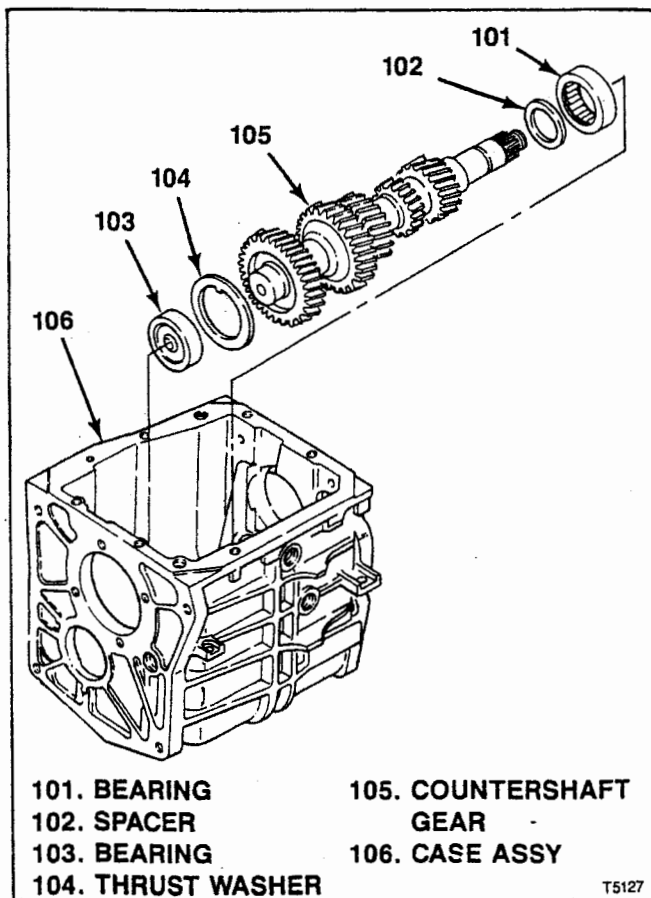
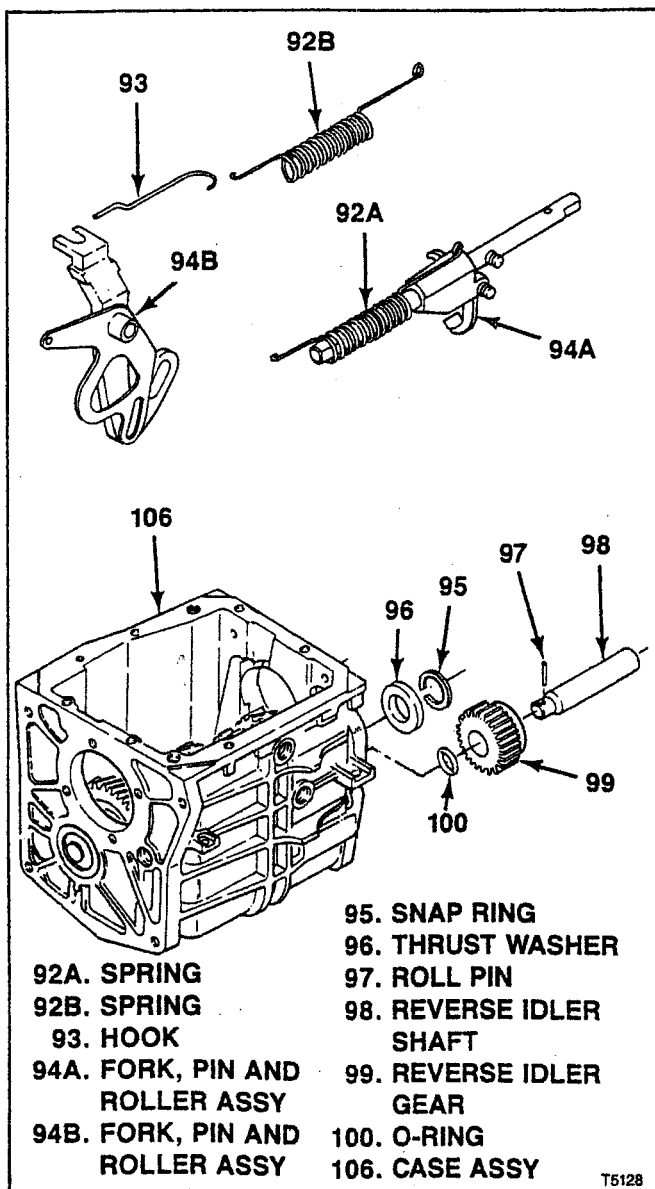
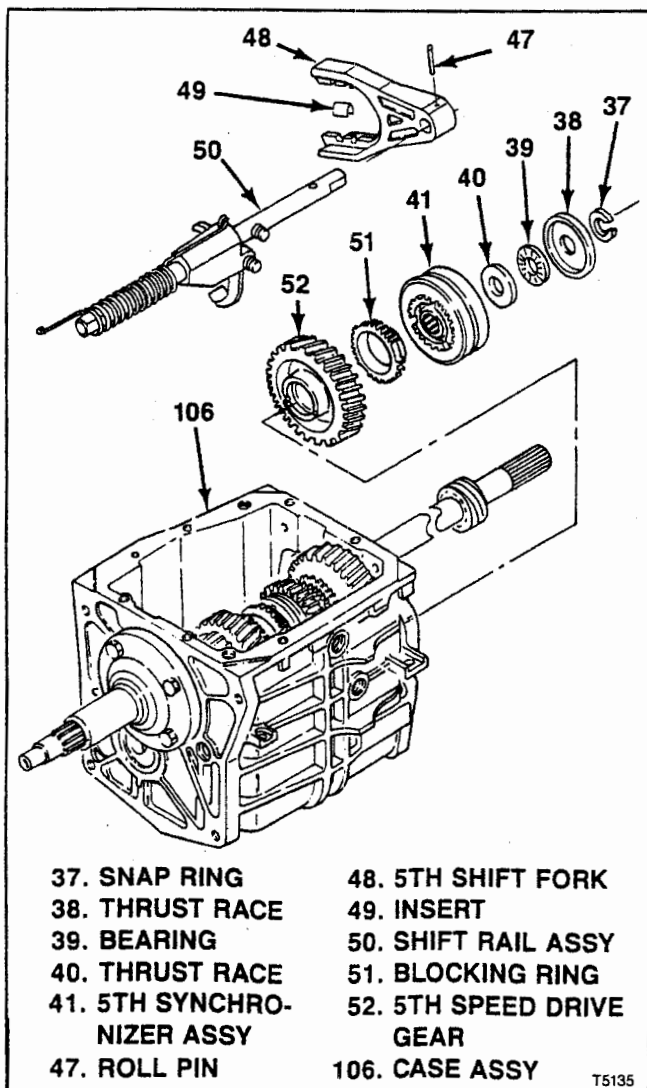

Figure 7-5. T5 NWC Countershaft Gear
Figure 7-6. T5 NWC Reverse Fork and Idler Gear
Figure 7-13. T5 NWC 5th Gear, Shift Fork and Synchronizer
7-8. ASSEMBLY AND INSTALLATION OF T5 NWC COUNTERSHAFT GEAR (see figure 7-5):
7-9. INSTALLATION OF T5 NWC REVERSE FORK AND IDLER GEAR. With assembly completed as described through paragraph 7-8, proceed as follows (see figure 7-6):
7-15. INSTALLATION OF T5 NWC 5TH GEAR, SHIFT FORK AND SYNCHRONIZER. At rear of transmission case (106), install parts as follows (see figure 7-13):
- Install 5th speed drive gear (52) and blocking ring (51) on end of countershaft gear (105, figure 7-5).
- Attach 5th shift fork (48) to shift rail assembly (50) with roll pin (47). Install inserts (49) on 5th shift fork.
- Engage 5th shift fork (48) with previously assembled (paragraph 7-7) 5th synchronizer assembly (41) and install together in transmission noting the following:
- Install 5th synchronizer assembly (41) over rear end of countershaft gear (105).
- Guide shift rail assembly (50) through reverse fork, pin and roller assembly (94A or 94B, figure 7-6) and, when used, spring (92A, figure 7-6) previously installed.
- Install thrust race (40), bearing (39), and thrust race (38). Retain these parts by installing snap ring (37).
On units with fork, pin and roller assembly (94B, figure 7-6), 5-R shift lever is permanently attached to the fork. In the following step, it is necessary to engage lever with roller on shift rail (50, figure 7-13) only.
- Work 5-R shift lever (36) into engagement with rollers on previously installed shift rail assembly (50, figure 7-13) and fork, pin and roller assembly (94A, figure 7-6).
- From outside transmission install pivot pin (34) through case and 5-R shift lever (36 or part of 94B, figure 7-6). Torque pin to 20 lb-ft (27 Nm).
- Inside transmission, attach lever to pin with retaining ring (33).
- Install back-up switch (35).
- Using needle nose pliers, hook free end of previously installed spring (92A or 92B, figure 7-6) on pin in transmission case (106).